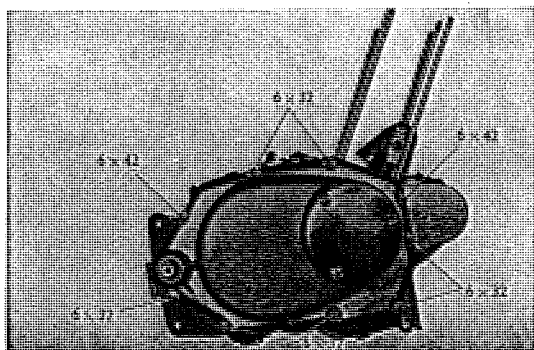

Fig. 3.55 Right crankcase cover screws
2. By pulling out the ten cross-point screws securing the case cover, the right crankcase cover is removed. (Refer to Fig. 3.55)